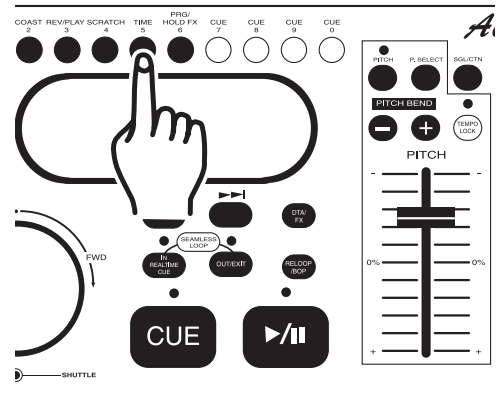

Figure 11
The time may be displayed in three different modes; *Elapsed*, *Remain*, and *Total Remain*. During normal playback, pressing the **TIME BUTTON (5)** as in figure 11, will change the time display information (57, 58, & 59) in the **LCD (14)**. The following is a break down of the time settings and their definitions:
- 1) **ELAPSED (56)** - This details the time in the **LCD (14)** as the current tracks' elapsed running time. The elapsed function only details a tracks elapsed time and not the entire disc.
- 2) **REMAIN (62)** - This details the time in the **LCD (57, 58, & 59)** as the current tracks' remaining running time.
- 3) **TOTAL REMAIN (66)** - This details the time in the **LCD (14)** as the total disc remaining time.
**TIME BAR INDICATOR** - The time bar in the **LCD (14)** visually details the time defined in the **TIME METER (57, 58, & 59)**. This bar is also dependent on the selected time function **TOTAL REMAIN (66)**, **REMAIN (62)** or **ELAPSE (56)**. This bar will begin to flash when 15 seconds of a track remain and will begin to rapidly flash when three seconds of a track remain. The flashing bar is a great visual reminder a track is about to end. The flashing bar will function regardless of which time mode the unit is in.